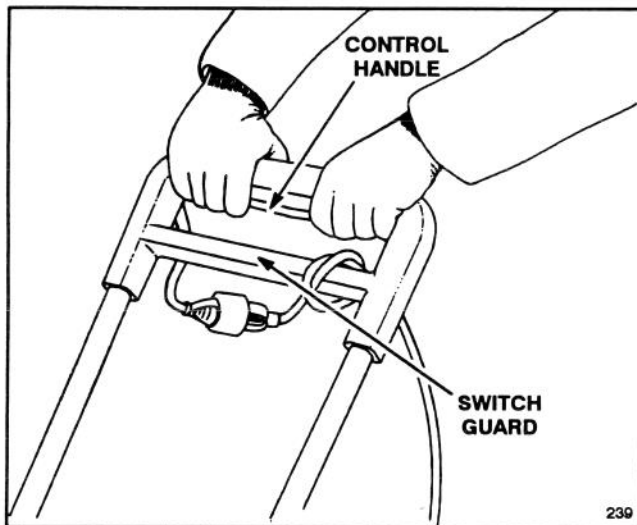

Figure 3
cord to switch guard before connecting to snowthrower cord; refer to page 4, figure 3 for proper procedures.
1. Tie the extension cord to the switch guard before connecting to the snowthrower cord. This prevents separation of the cords during operation (Fig. 3).
To start rotor, make sure key is installed, and squeeze the control handle. To stop, release the control handle (Fig. 3).
1. Squeeze the control handle to start the rotor (Fig. 3). The depth and weight of the snow governs the forward speed.